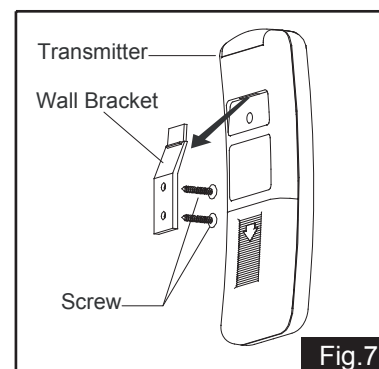

Fig.7
- 7.) Install the transmitter wall bracket in wall by two screws and hang transmitter in it carefully. (See Fig.7)